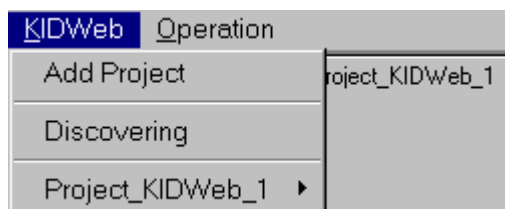

Fig. 7.17
- Click on **KIDWeb** menu to call the sub-menu shown in Fig. 7.17.
The respective sub-menu (Fig.7.17) selects this option.